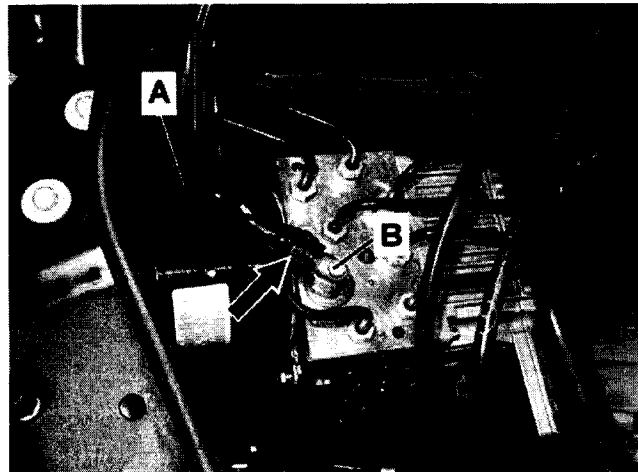

Figure 19
- Position bracket (A) on SBC hydraulic unit, reinstall self tapping screw (arrow) and **torque to 7 Nm**.
22. Connect SBC suction hose (A, Figure 19) to SBC hydraulic unit fitting (B); refer also to WIS: AR42.46-P-0010R steps 12 – 16.